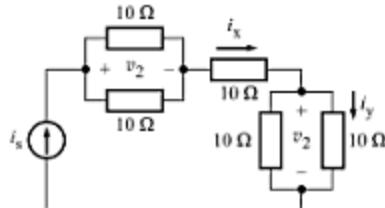

Fig. A-87
- A-49. Refer to the circuit of Fig. A-87. (a) If  $i_x = 5$  A, find  $v_1$  and  $i_y$ . (b) If  $v_1 = 3$  V, find  $i_x$  and  $i_y$ .